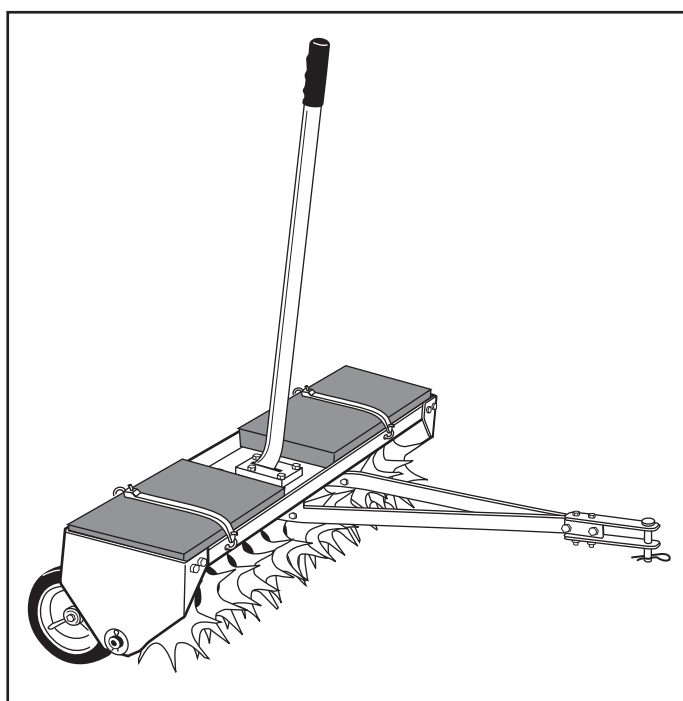

FIGURE 9
11. To increase depth of spike point penetration, add weight to the tray as necessary. The tray holds concrete blocks or patio blocks at approximately 35 lbs. each. Secure the weights with straps or wire using the holes in the tray flange. See figure 9.